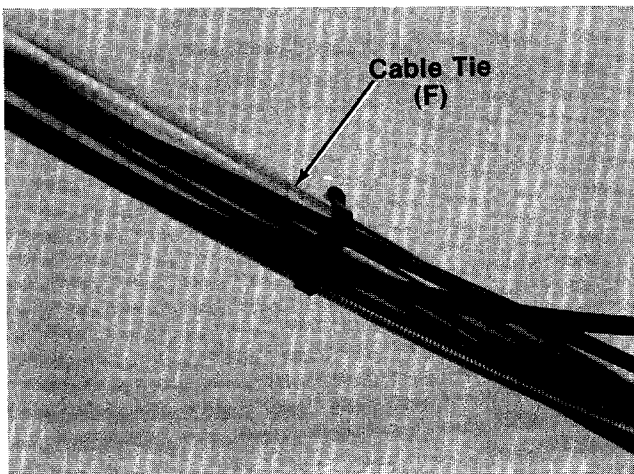

FIGURE 10.
16. Secure the control cables to upper and lower handles with cable ties (F) provided. See figure 10.